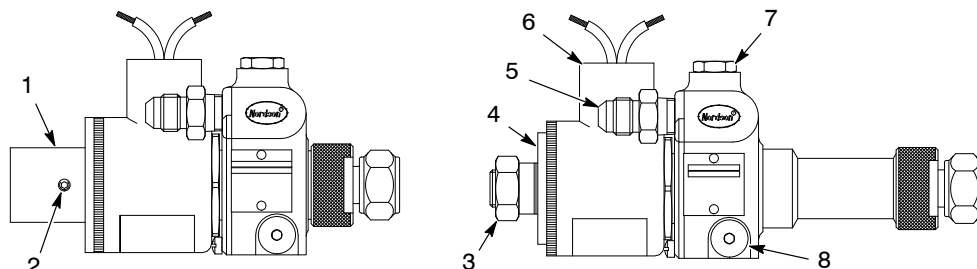

Figure 4 Installation
See Figure 4. Remove the transducer plug (8). Install the transducer or swivel assembly into the transducer port. Refer to the *Canworks Pressure Transducer/Swivel Assembly* instruction sheet for installation procedures.
1. See Figure 4. Remove the CO-Plate plug (7).